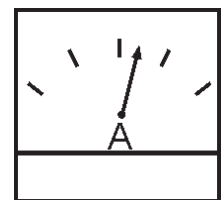

Figure 40. Ammeter (Load)
12. Observe the generator's ammeter (Figure 40) and verify it reads the anticipated amount of current with respect to the load. The ammeter will only display a current reading if a load is in use.